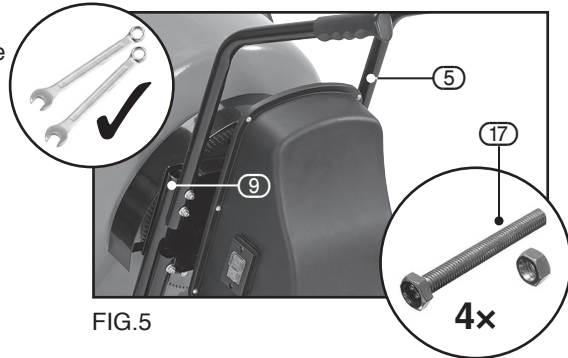

FIG.5
8.3 FRAME ASSEMBLY – FIG.5
For transportation and delivery purposes, the handle part of the frame section (5) needs to be fitted before use (see Fig.5).
- Re-fit the handle frame to the back support frame using the existing 4 × M8 × 75mm bolts and nuts (17).